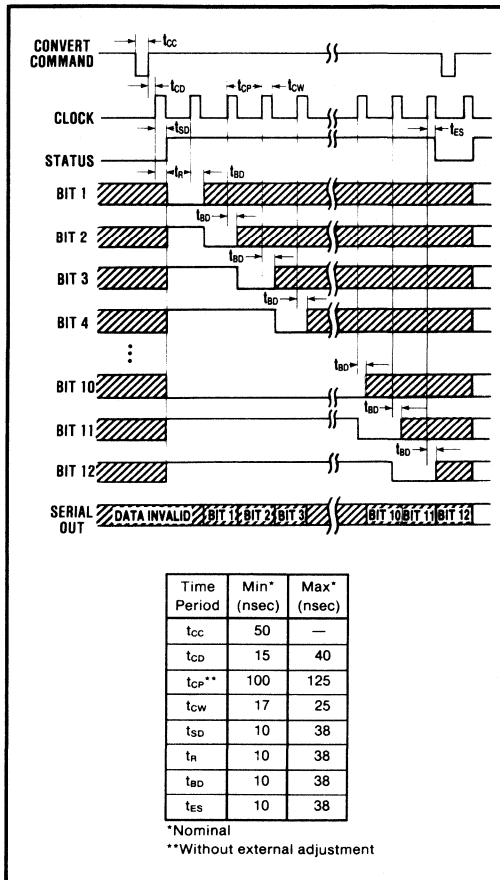

FIGURE 2. ADC803 Timing Diagram.
The timing diagram (Figure 2) shows the relationship between the convert command, clock and outputs. The digital output word is positive true logic for bipolar operation and complementary logic for unipolar operation.
The following are some important notes on the ADC803 timing. The times given are typical unless otherwise noted. Nominal maximum and minimum times are also given in Figure 2.
5. **Parallel Output Data:** The Successive Approximation Register (SAR) is reset 26nsec after the leading edge of the first clock period in the conversion cycle. The MSB is set to logic "0" and all other bits are set to logic "1". The bits are determined in succession starting with the MSB, Bit 1, as shown in Figure 2. Each bit will be valid 26nsec after its corresponding clock pulse.